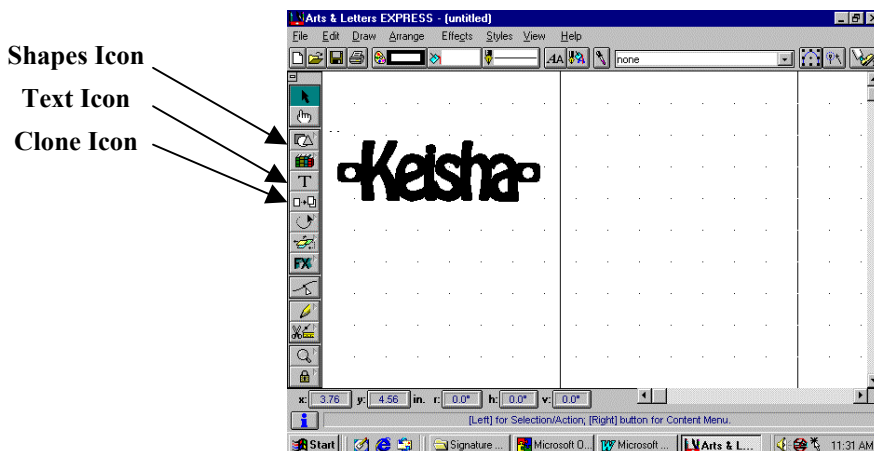

Figure 2
10. Click on **Edit**, then **Block Select**. Draw a box around the two shapes to group them together, then click on **Arrange**, then **Group**. After you've grouped the shapes, click on the icon with a single page, a right pointing arrow and two pages. (See Figure 1) This is the cloning function. Then click on the shapes and holding the left mouse button, drag to another location on the screen. You now have two of these shapes. One for each side of the name. (See Figure 2) To retrieve the cursor, click on the arrow icon.
11. Position the cursor over the grouped shapes and holding the left mouse button down, drag the shape and place it so that it is touching the name. You can position it anywhere you want. Repeat with the cloned shapes. (See Figure 2)